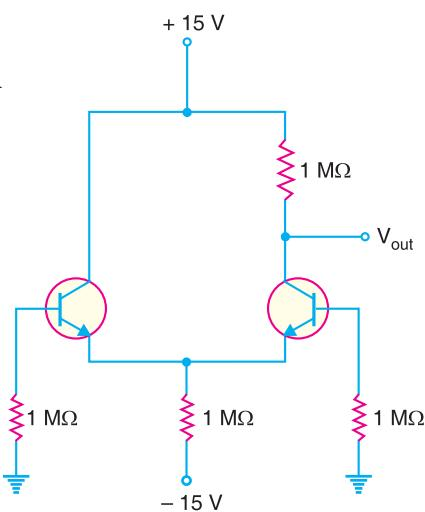

Fig. 25.25
**Example 25.11.** In Fig. 25.25, the left transistor has  $\beta_{dc} = 90$  and the right transistor has  $\beta_{dc} = 110$ . Find (i) the input offset current (ii) input bias current. Neglect  $V_{BE}$ .